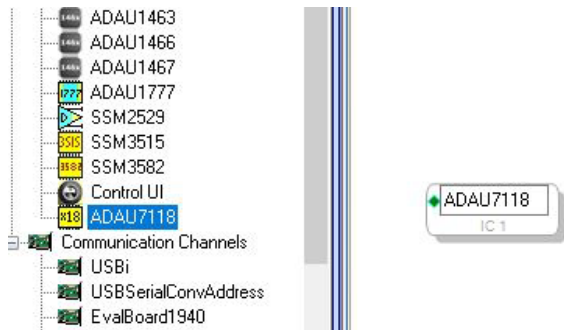

Figure 14. Adding the ADAU7118 to the SigmaStudio Project
1. Click the icon in the far upper left of the SigmaStudio application window to open a new project. Find the ADAU7118 in the Tree Toolbox (see Figure 14) and drag and drop it in the Hardware Configuration tab (see Figure 16).